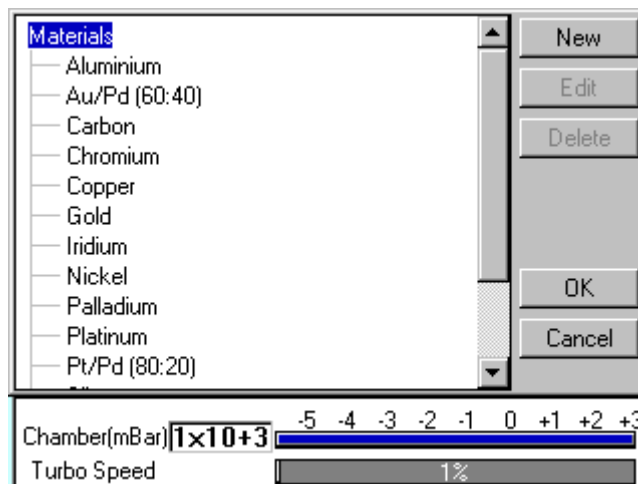

Figure 4-5. Materials Editor
To create, edit or delete a new entry in the material database, select **Edit | Materials** from the menu bar. **Materials Editor** is displayed (see **Figure 4-5**).
1. Select **Edit | Materials** from the menu bar. *Material Editor* is displayed (see **Figure 4-5**).